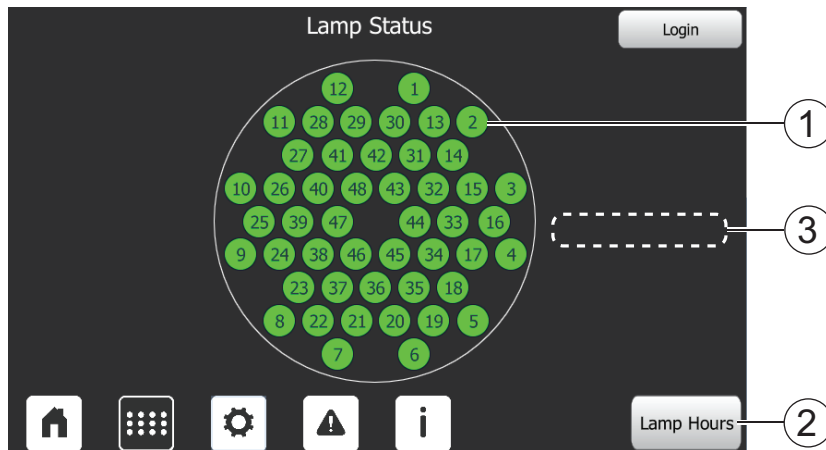

Figure 3 Lamp Status Screen
**Note:** This screen is displayed by pressing on any UV Lamp icon on the Lamp Status screen (Figure 3).